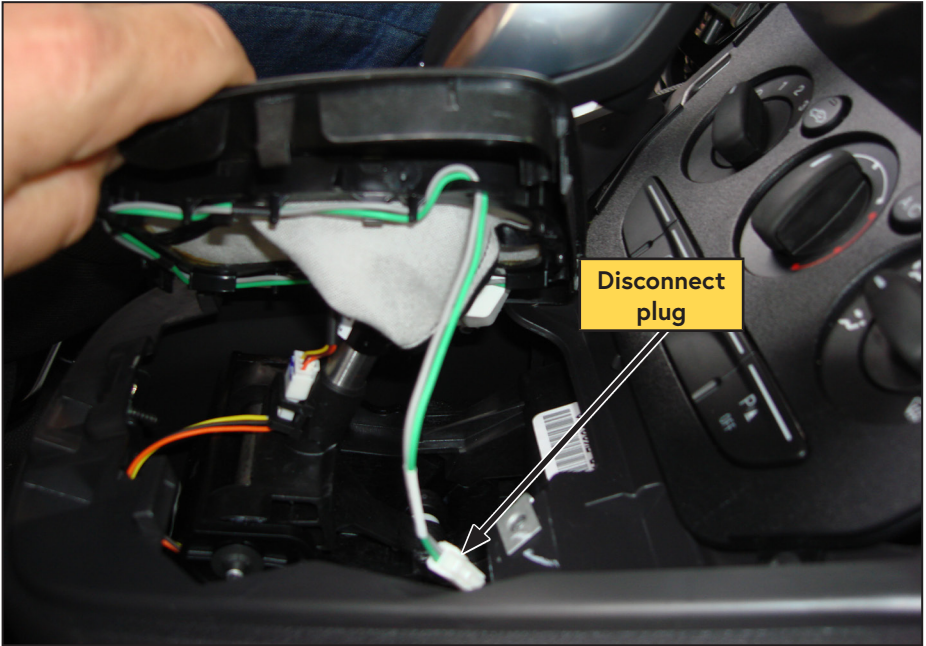

Figure 7 — Remove gear selector insert
- Gently pry the gear indicator plate up, reach underneath and disconnect the plug (on the passenger side) to allow enough room to pull the boot up the shifter (Figure 7).